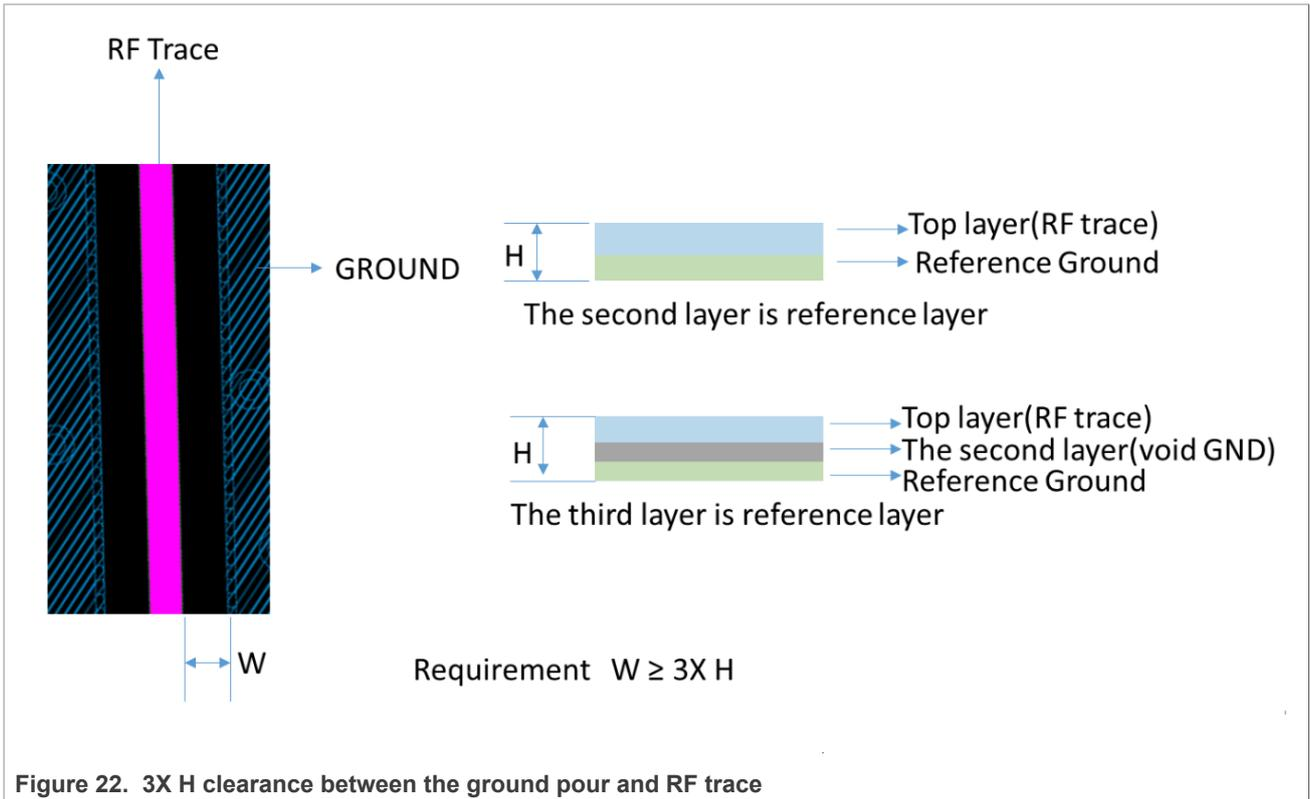

Figure 22. 3X H clearance between the ground pour and RF trace
- Use at least a 3X H clearance between the ground pour and RF micro strip to minimize the impact on the micro strip impedance. Maintain this gap around any RF signal via, as shown in Figure 22.